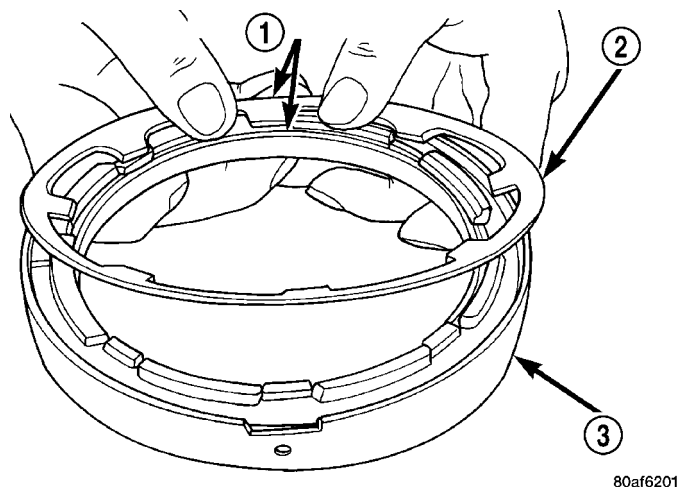
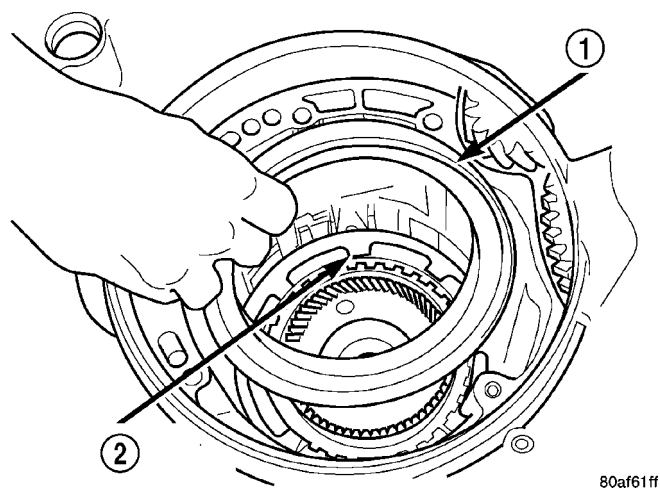

Fig. 131 Proper Orientation of 2/4 Clutch Retainer and Spring
Fig. 132 2/4 Clutch Retainer
(45) Orient 2/4 clutch return spring to retainer as shown in (Fig. 131), and install to transaxle (Fig. 132).